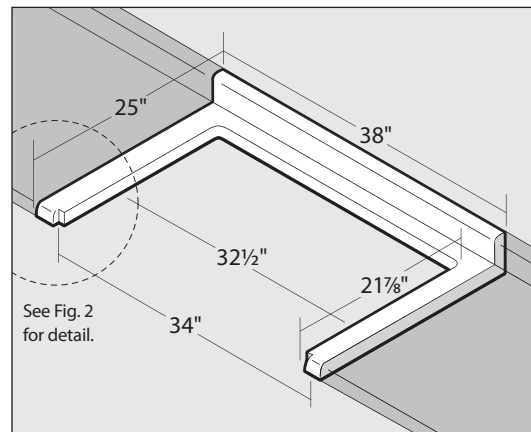

FIGURE 1. Mark cutout according to these dimensions.
Note: If replacing a sink in an existing counter top, the sink cutout in the counter top must not exceed 32 1/2" or be more than 21 7/8" from the front edge (see Fig. 1 on page below). If the existing cutout exceeds these dimensions then a new counter top is required. Measurements are based on 24" deep base cabinet and 25" countertop.
- + Mark the position of the cutout (on the tape) for the sink on your countertop using the dimensions shown in Fig. 1.
- + Cut out the countertop through the tape. Your countertop should now look like Fig. 1.